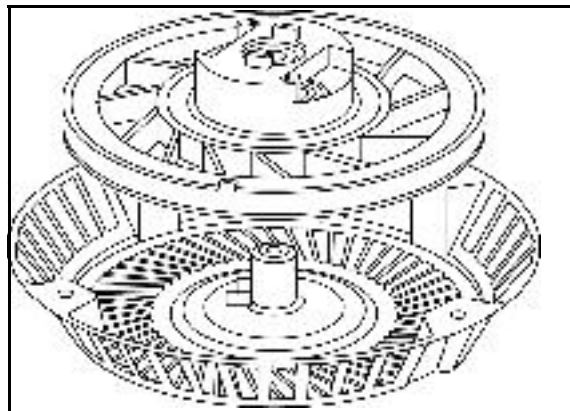

Fig. 5
10. Carefully lift out pulley and spring assembly, (Fig. 5).